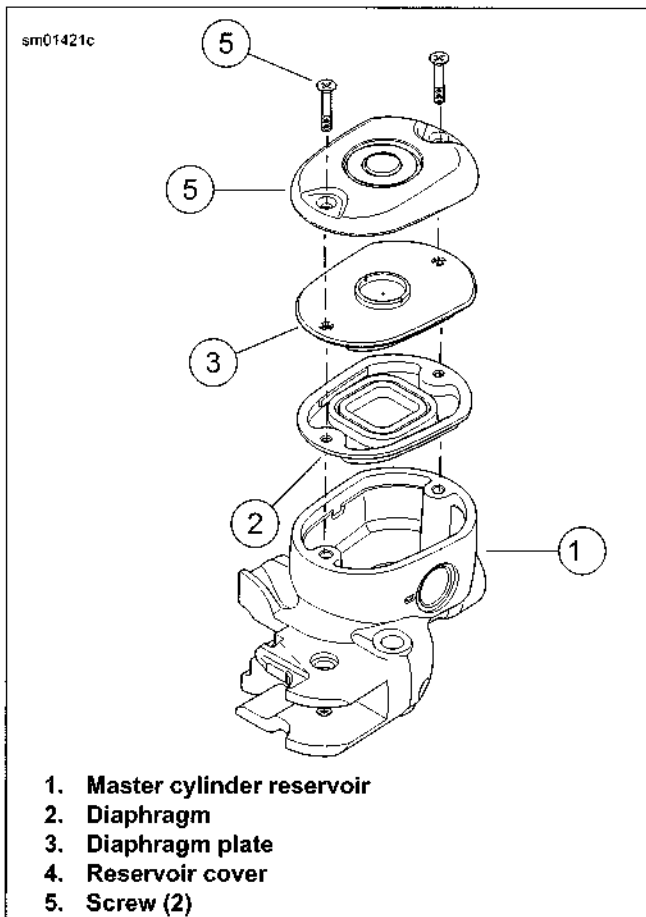

Figure 1-33. Front Brake Master Cylinder Cover
3. See Figure 1-33. Remove two screws (5), reservoir cover (4), diaphragm plate (3) and diaphragm (2) from master cylinder reservoir.